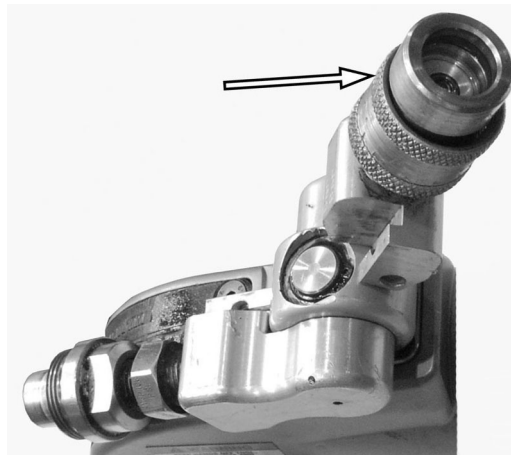

Figure 9. Rotated Yoke
3. See Figure 9. Disengage the multiswivel yoke by rotating the advance yoke away from the retract yoke, disengaging the keys. Pull each yoke away from the banjo.